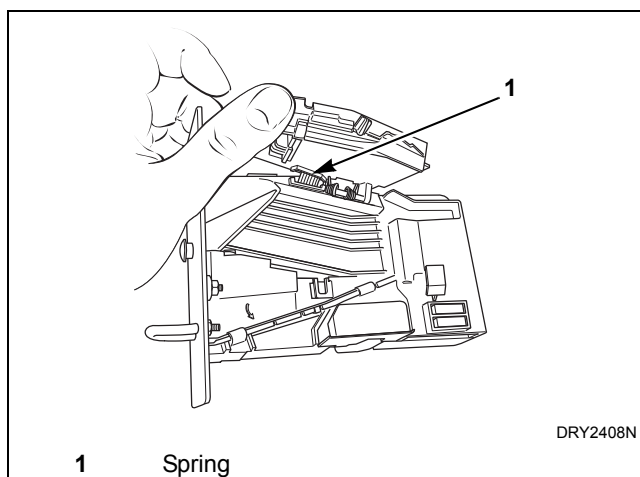

Figure 51
- c. Open cover of coin drop. Refer to *Figure 51*.